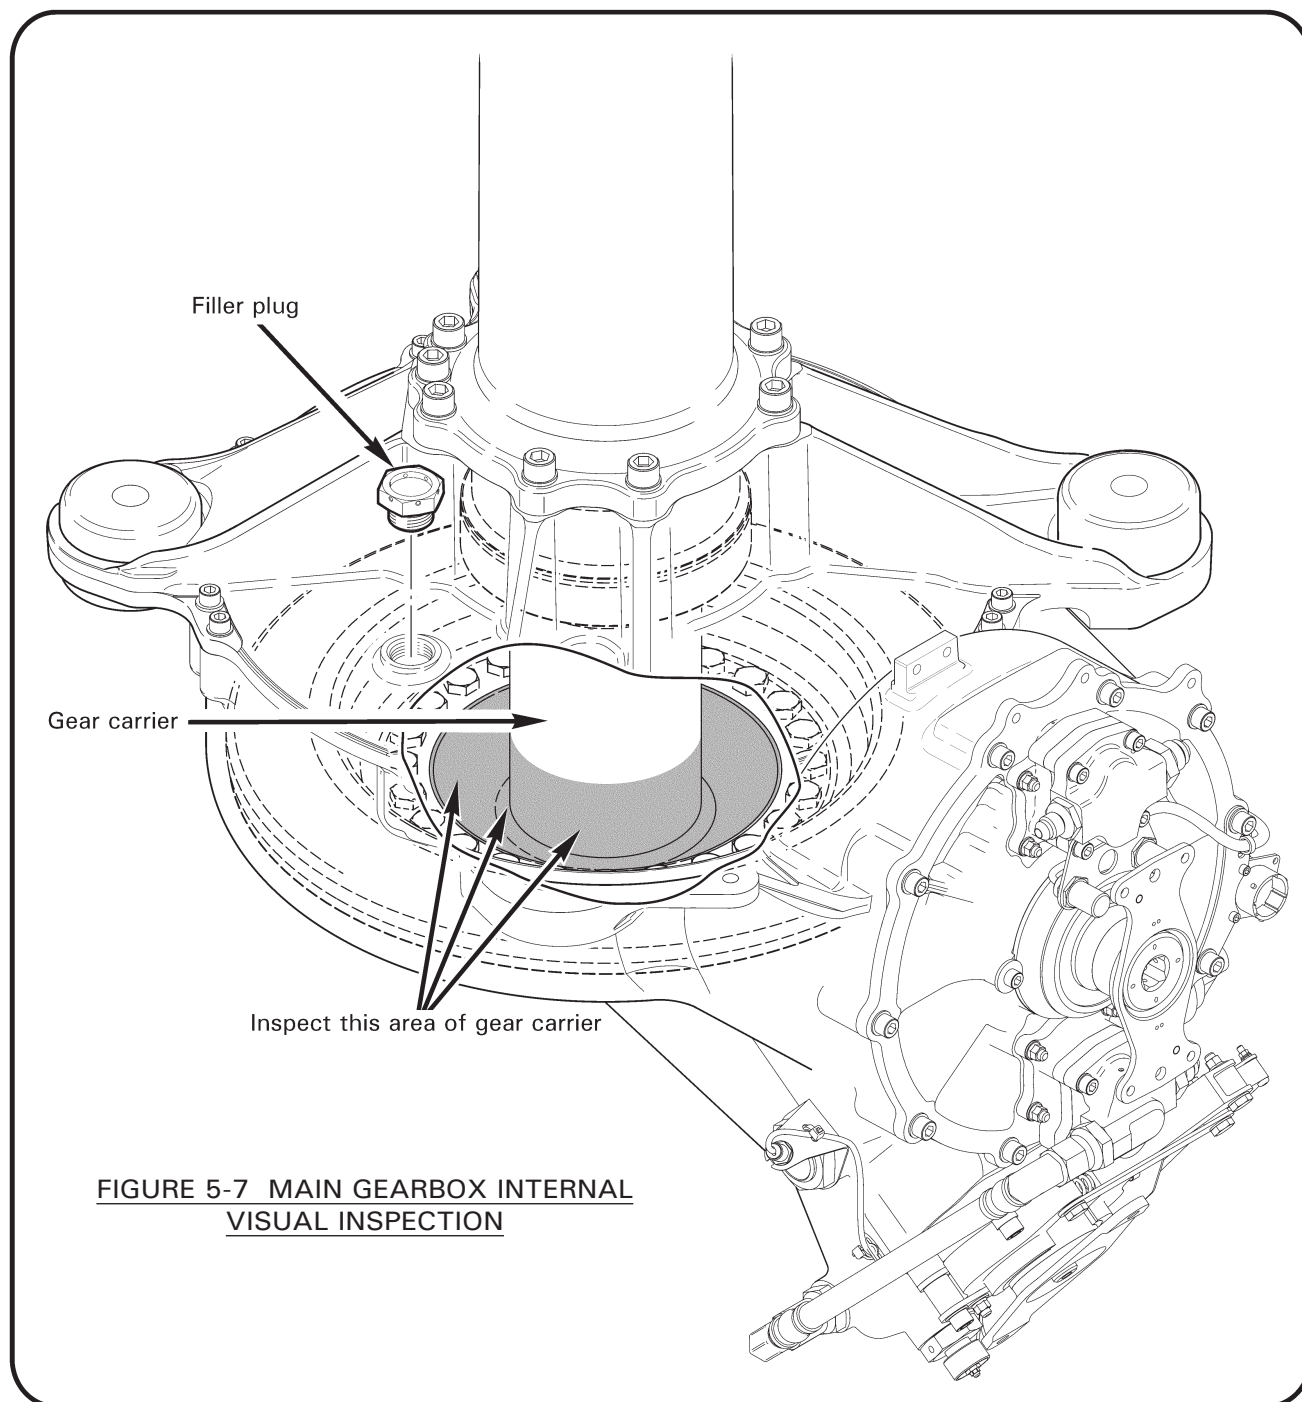

FIGURE 5-7 MAIN GEARBOX INTERNAL VISUAL INSPECTION
1. Refer to Figure 5-7. Gain access to and remove main gearbox filler plug.